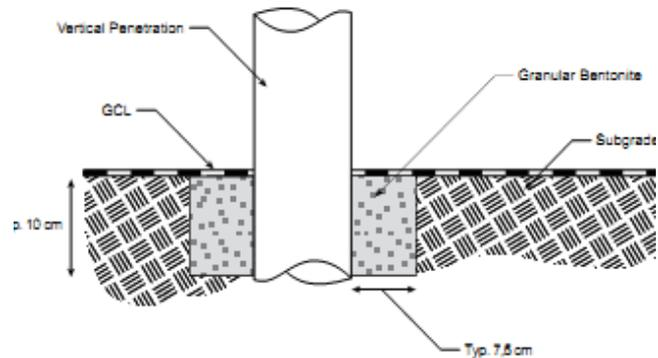
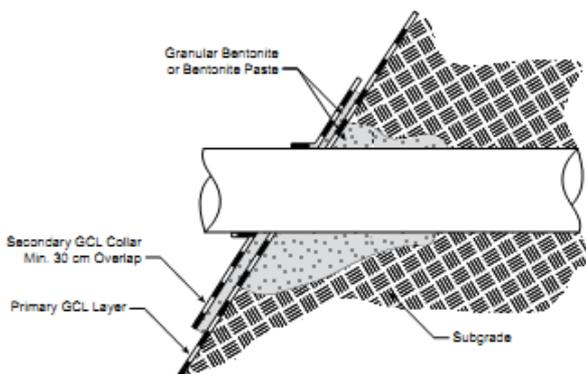

Fig. 15: Cross-section of a vertical penetration
Fig. 13: Cross-Section of a horizontal pipe penetration
2. The **Claymat GCL** should be sealed around penetrations and structures embedded in the subgrade in accordance with **Figures 13** through **16**. Granular bentonite shall be used liberally (min. 0.4 kg/m) to seal the **Claymat GCL** to these structures.
3. When the **Claymat GCL** is placed over a horizontal pipe penetration, a “notch” should be excavated into the subgrade around the penetration (**Figures 13 & 14**). The notch should then be backfilled with either granular bentonite or bentonite paste. A secondary collar of **Claymat GCL** should be placed around the penetration. It is helpful to first trace an outline of the penetration on the **Claymat GCL** and then cut a “star” pattern in the collar to enhance the collar’s fit to the penetration. Granular bentonite should be applied between the primary **Claymat GCL** layer and the secondary **Claymat GCL** collar.
4. Vertical penetrations are prepared by notching into the subgrade as shown in **Figure 15**. A secondary collar can be placed as shown in **Figure 13 & 14**.